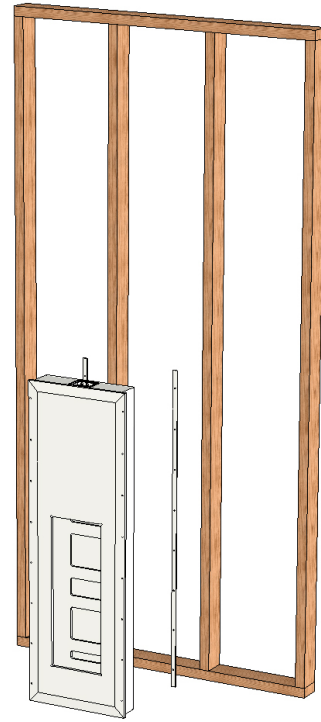

FIGURE 2
- b. If the construction calls for 5/8" drywall, then use the two spacers supplied to fur the IWPBB out from the stud wall. After the drywall is hung, the edges of the IWPBB should be taped, mudded and sanded flush with the drywall. The IWPBB can then be painted or finished as the rest of the drywall in the room. **See Figure 2.**
- b. If the construction calls for ⅝" drywall, then use the two spacers supplied to fur the IWPBB out from the stud wall. After the drywall is hung, the edges of the IWPBB should be taped, mudded and sanded flush with the drywall. The IWPBB can then be painted or finished as the rest of the drywall in the room. **See Figure 2.**